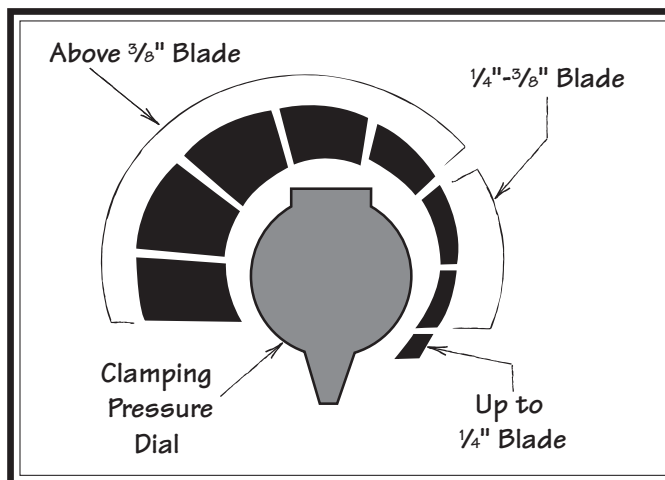

Figure 28. Blade clamping settings.
- Use the illustration in **Figure 28** and set the correct clamping pressure setting for width of the blade.